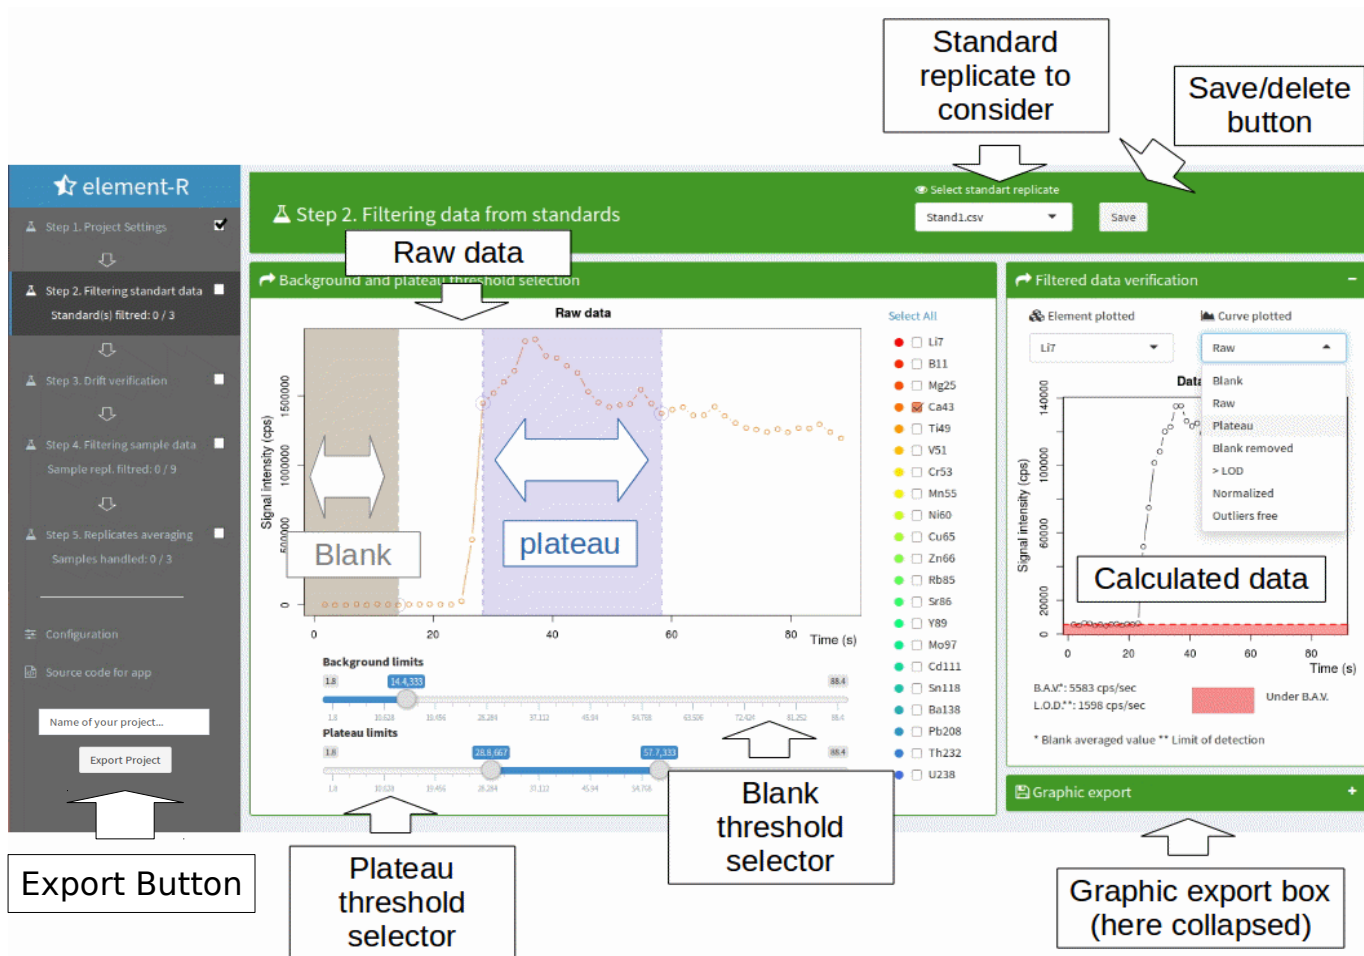

Figure 5: Standard filtration tab functionalities
To this aim, you must first select the standard replicate to filter (Fig. 5).
Once the replicate chosen, raw and reduced data of the considered replicate appear in two boxes (Fig. 5). The left box aims to select background and plateau thresholds thanks to the selectors below the plot (by default **elementR** suggests blank and plateau limits according to derivative value and clustering methods). The right box plots calculated data in order to check the validity of your selected thresholds (i.e. reduced and intermediate data, see below).
- the entire project and its settings in an .Rdata file. This file is the one to load for re-opening an existing project (see step 1 and on Fig.5)